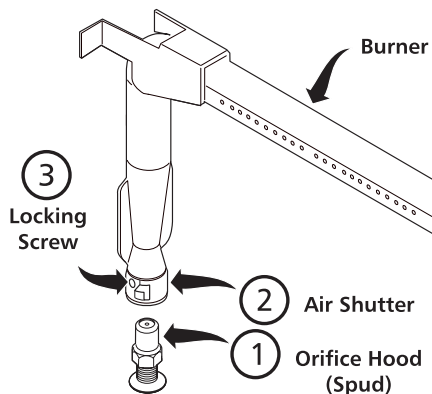

Figure 12
- Turn off oven and allow to cool before adjusting air shutter. To adjust loosen lock-screw (See Figure 12), reposition air shutter, and tighten lock-screw.